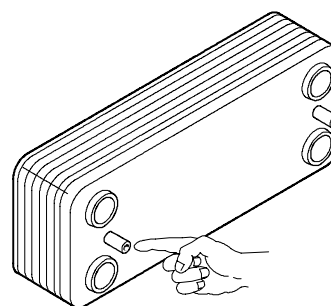

Fig. 6.4
**Attention.** When reassembling the exchanger be sure to put the off centre location/securing pin indicated in Fig. 6.4 towards the left side of the boiler.